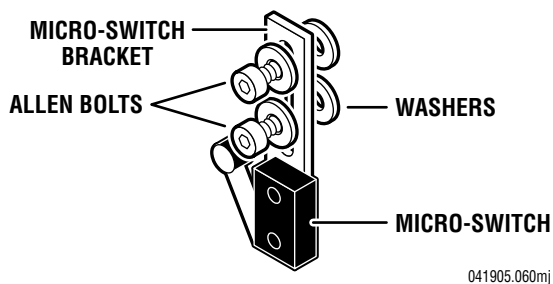

Figure 5-28. Micro-Switch Adjustment
2. For all switches except the Leg Section switches, carefully loosen the allen bolts securing the switch bracket and adjust the switches as needed. See figure 5-28.